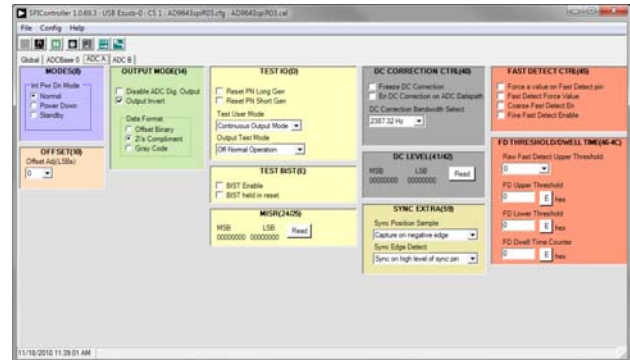
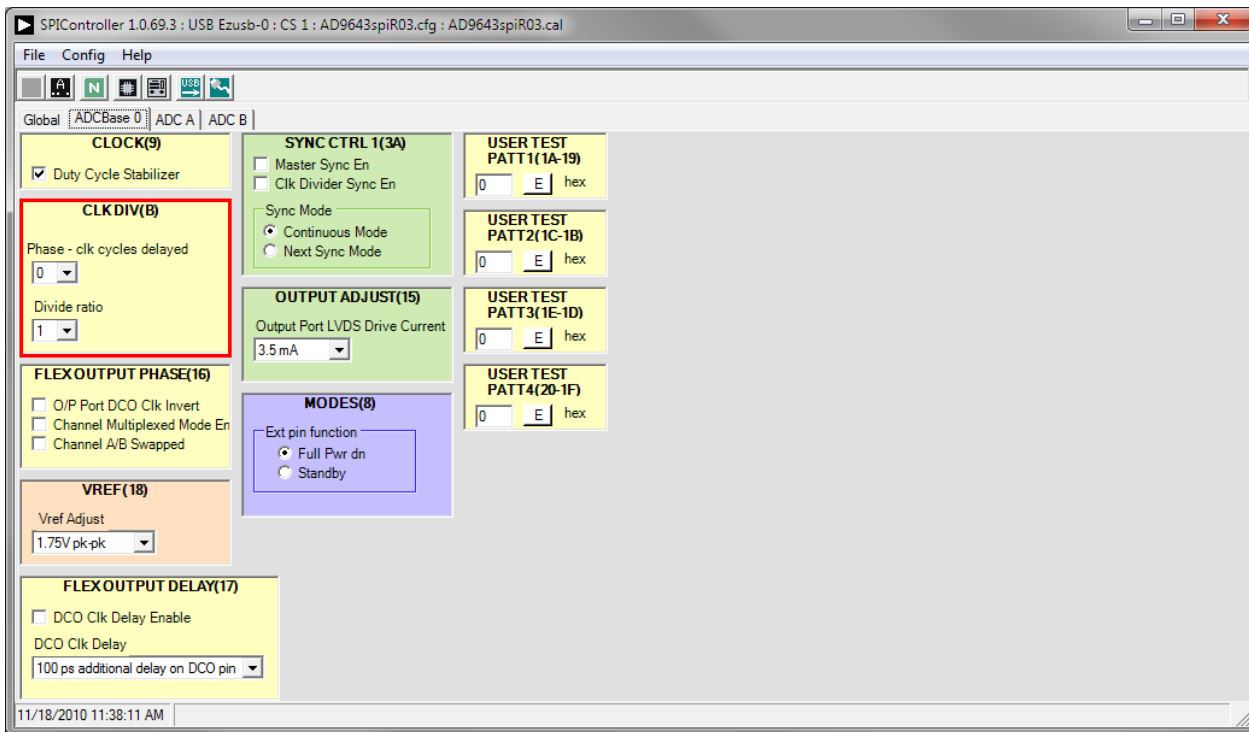

Figure 10. SPI Controller, Example ADC A Tab
Figure 11. SPI Controller, CLK DIV(B) Section
- In the **ADCBase 0** tab of the **SPIController** window, find the **CLK DIV(B)** section (see Figure 11). If using the clock divider, use the drop-down box to select the correct clock divide ratio, if necessary. See the appropriate part data sheet; the AN-878 Application Note, High Speed ADC SPI Control Software; and the AN-877 Application Note, Interfacing to High Speed ADCs via SPI, for additional information.
- Note that other settings can be changed on the **ADCBase 0** tab (see Figure 11) and the **ADC A** and **ADC B** tabs (see Figure 10) to set up the part in the desired mode. The settings on the **ADCBase 0** tab affect the entire part, whereas the settings on the **ADC A** and **ADC B** pages affect the selected channel only. See the appropriate part data sheet; the AN-878 Application Note, High Speed ADC SPI Control Software; and the AN-877 Application Note, Interfacing to High Speed ADCs via SPI, for additional information on the available settings.